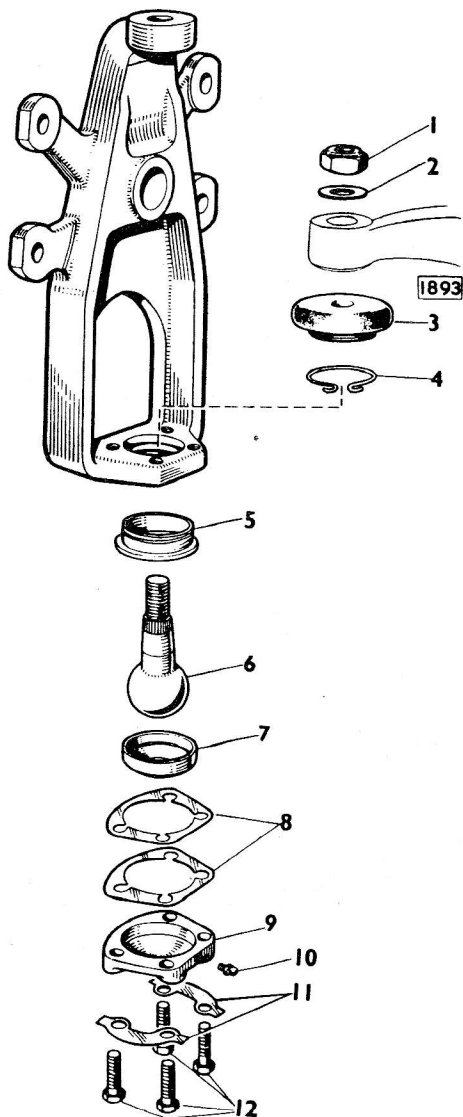

Fig. 9. The lower wishbone ball joint.
Release the wire clip (4, Fig. 9) and remove the rubber gaiter (3).